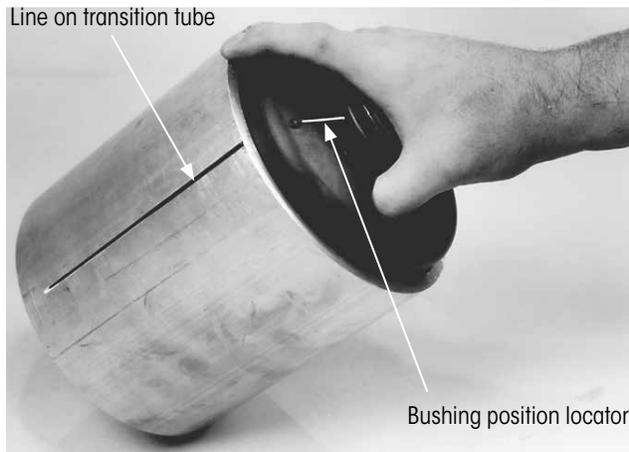
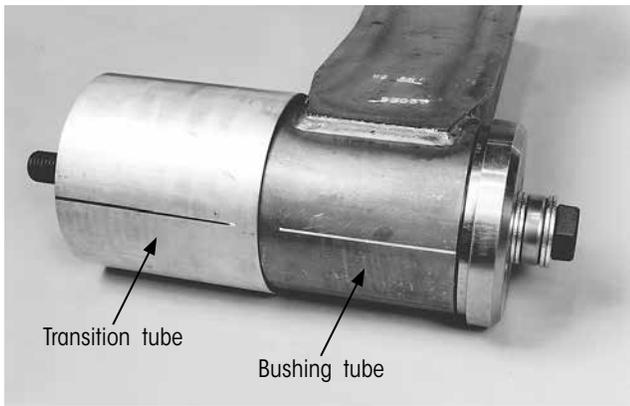

Figure 30: Inserting replacement bushing into transition tube
Figure 39: Align lines for proper bushing orientation (TF II bushing tool shown)
3. **Insert** the bushing into the transition tube (Figure 30).
4. (Does not apply to QF I bushing) **Align** the position locator on the bushing with the line drawn on the transition tube as shown in Figure 30.
4. **Align** the line drawn on the transition tube (step 1 on page 14) with the line drawn on the bushing tube (step 2 on page 9) as shown in Figure 39.
5. **Ensure** the bushing position locator (Figure 30 on page 15) is aligned with the line on the transition tube and bushing tube (Figure 39).
- B. The transition tube is squarely seated on and aligned with the other side of the bushing tube (Figure 39).
- i. Wide and Narrow - Rear drive plate alignment groove (Figure 42) is aligned with lines on the transition tube and bushing tube (Figure 39 on page 18).